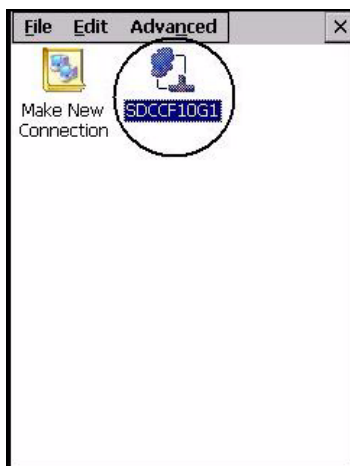

Figure 2.1 Summit WLAN Adapter Icon
2. Choose the **Summit WLAN Adapter** icon to open the *802.11b/g Wireless LAN Settings* window. In Figure 2.1, this icon is labelled **SDCCF10G1**.